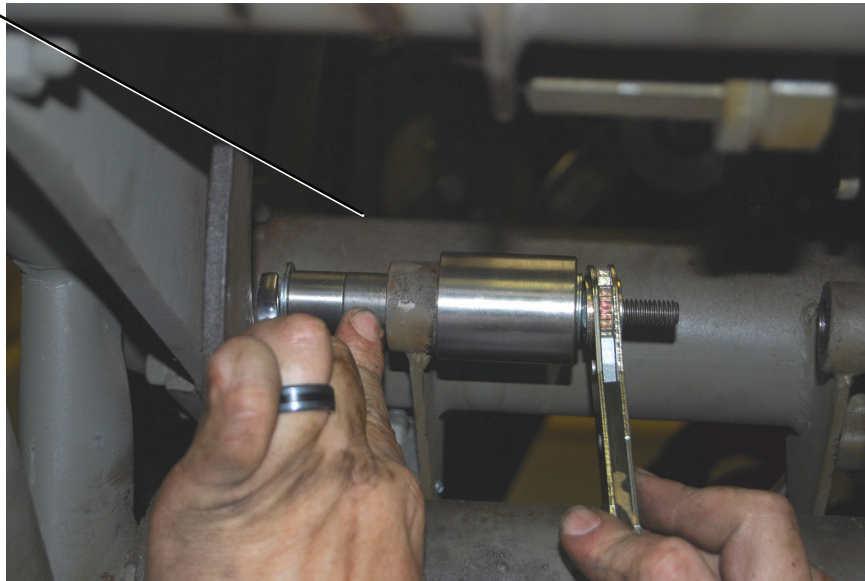

Figure 19
11. To reinstall the bearings use the bearing removal and installation tool. **Do not insert the bearing too far.** Refer to *Figure 19*.